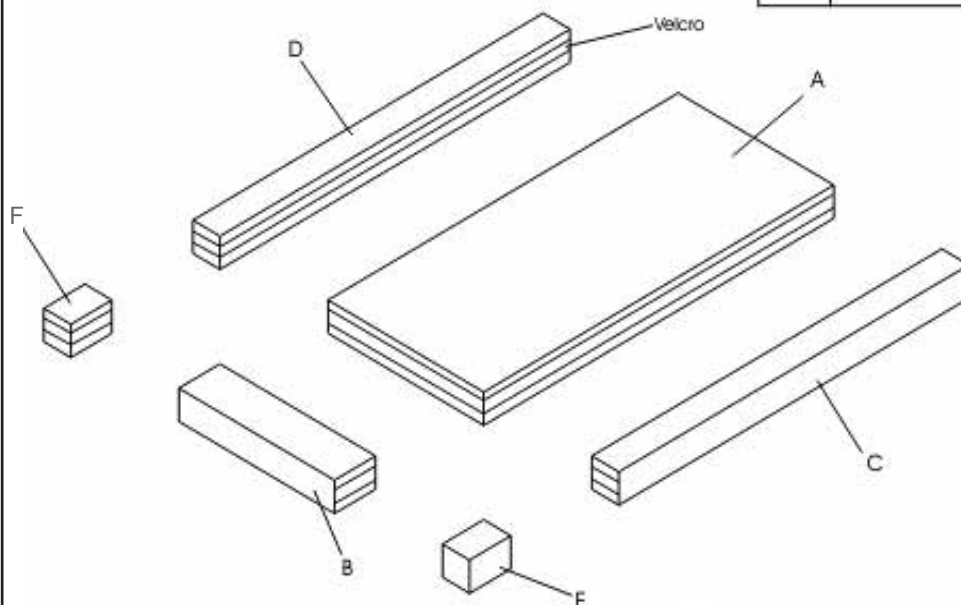

Figure 18
1. Bari10A Bed may be equipped with BariMatt 1000 6.5" foam mattress (Figure 18, p.12).
3. Mattress User Manual (Figure 18 p.12) describes Mattress assembly and usage requirements.